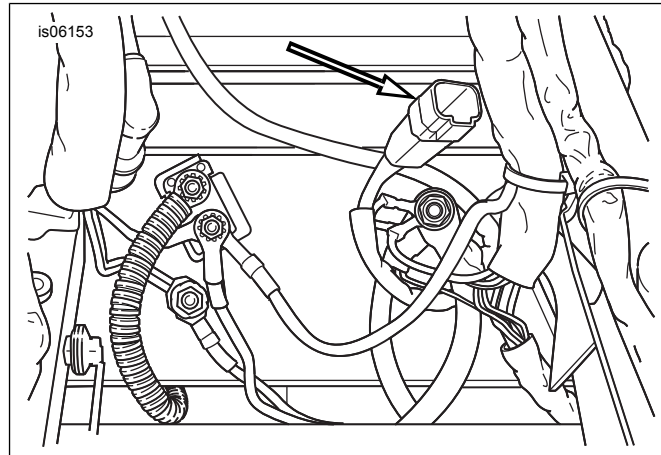

Figure 1. Accessory Connector [4] Location Under Seat
10. Locate the four-way accessory connector [4] in the area under the seat. See Figure 1. Remove the plug from the accessory connector. Connect the footboard insert wire harness to the accessory connector.